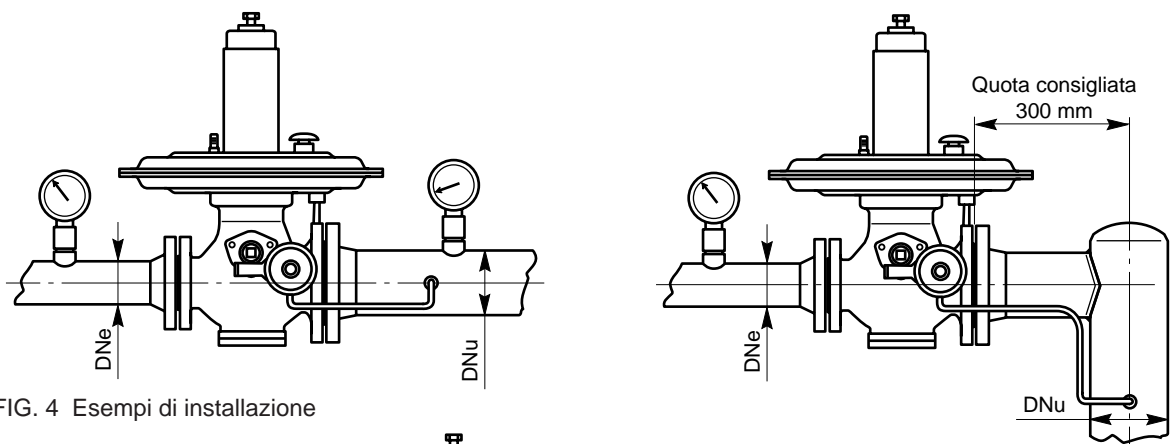

FIG. 4 Esempi di installazione
- In the versions with internal slam-shut valve, pilot impulse connection must be fitted downstream (Figs 4 and 5).